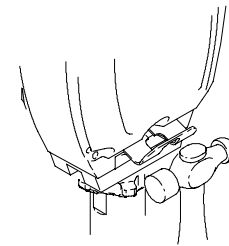

Fig. 11
6. Fig. 11. Loosen locknut by hitting firmly with a 20 oz (maximum) hammer. Unscrew pump.